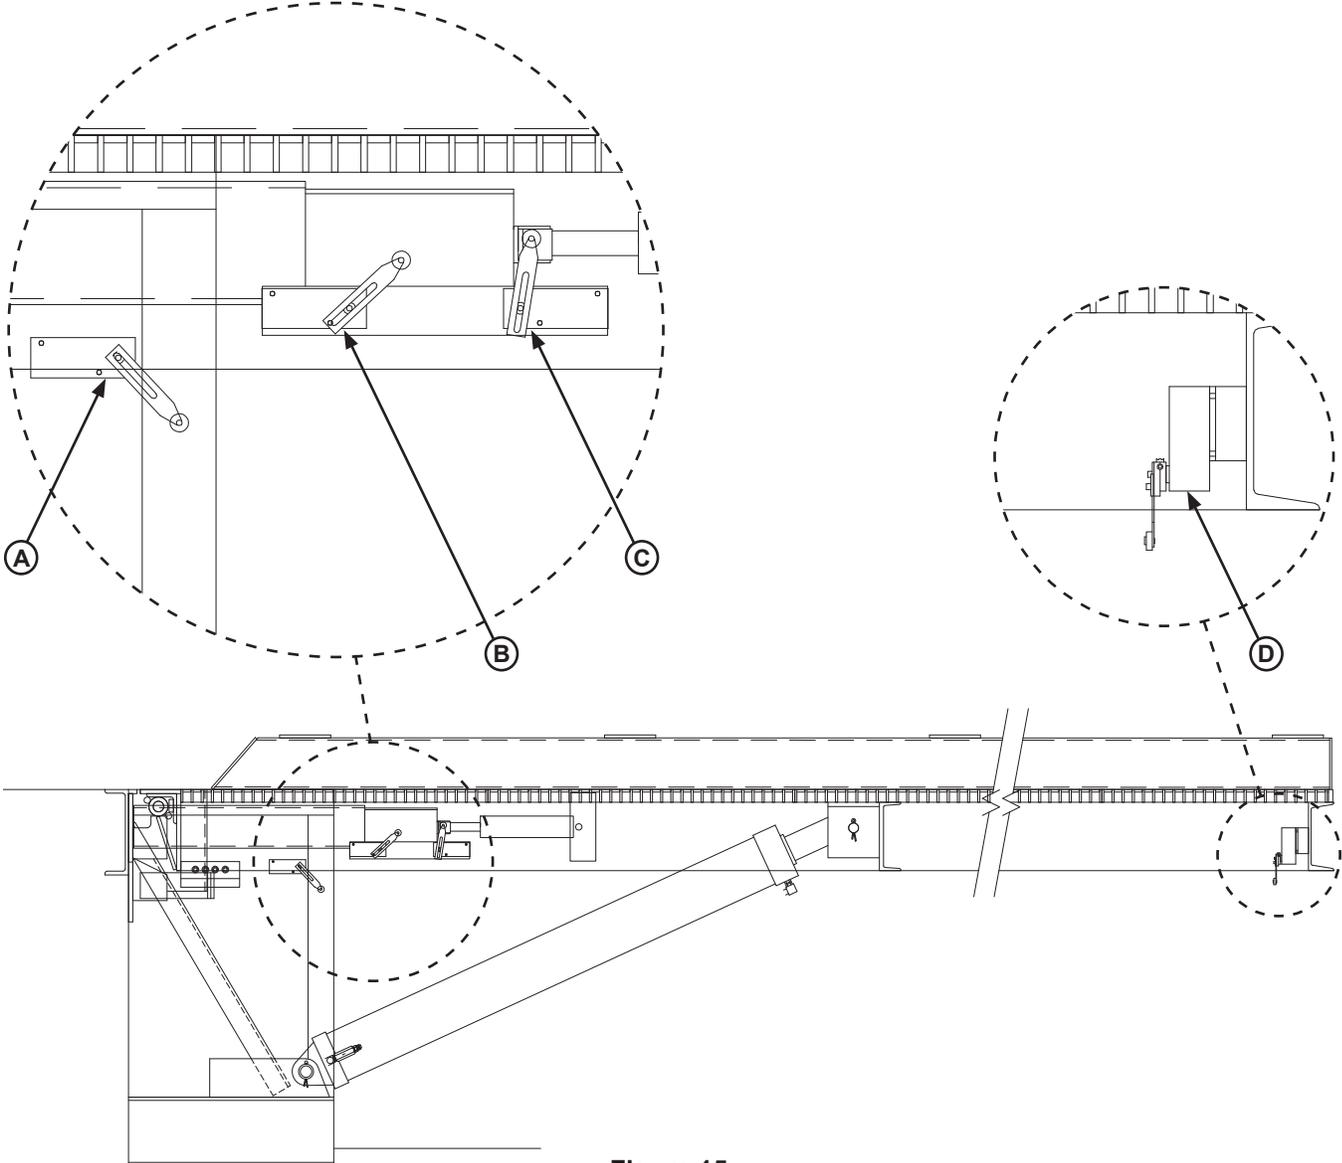

Figure 15
14. Press RAISE button until bridge is in fully stored position with hydraulic storage props extended. If set properly, hoist cylinder limit switch contact will close just as bridge reaches fully stored position and maintenance prop falls into pocket. If required, adjust hoist cylinder and/or storage prop switches at this time. See Figure 15.
15. Press and hold the LOWER button until hydraulic storage props are retracted and the bridge is fully lowered. Ensure the lowered limit switch roller arm is set to activate switch when bridge is completely lowered and resting in pocket on free end. If required, adjust switch at this time. See Figure 15.